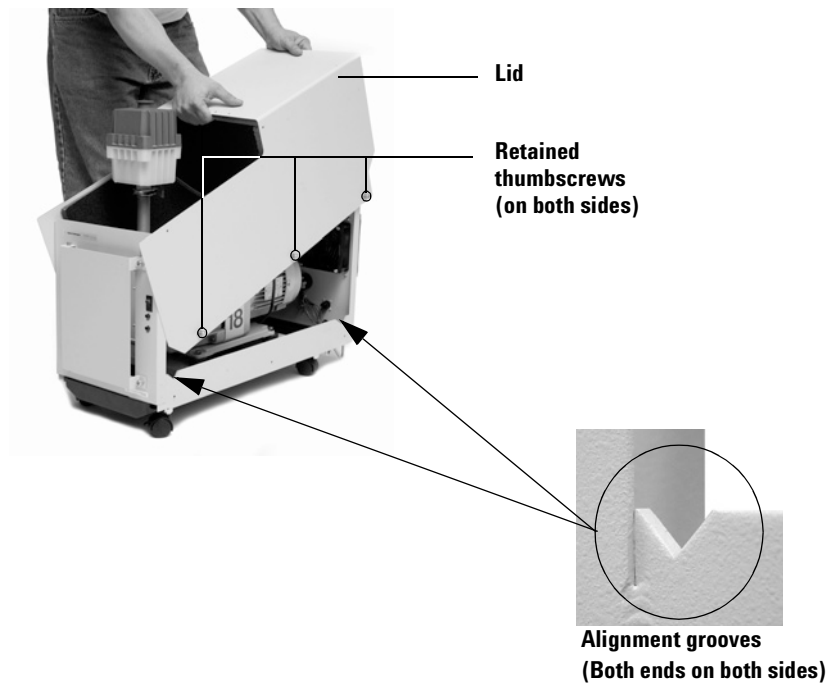

Figure 8 Placing the lid on Quiet Cover II.
- 1 Place the lid on the base, making sure the studs (posts) on the inner wall of the top lid align with the grooves along the frame. Tighten the three retained thumbscrews on both sides. See Figure 8.